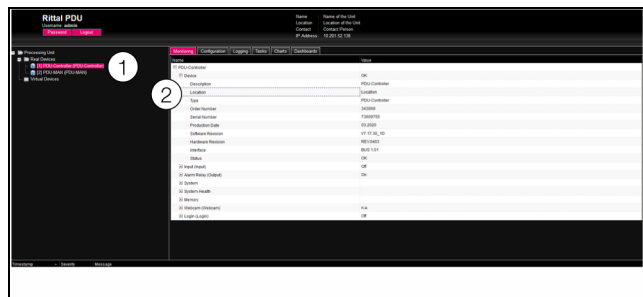

Fig. 45: Select an individual parameter
- One after the other, open the "PDU-Controller" and "Device" entries by clicking on the "plus" symbol in front of the entry (fig. 45, item 1).
- Position the mouse pointer at the end of the first column in the "Location" line (fig. 45, item 2).